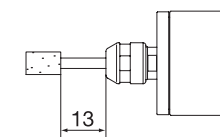

Fig. 16
- Do not exceed 13mm overhang for mounted grindstones. In case overhang must exceed 13mm reduce the motor speed in accordance with Fig. 16.